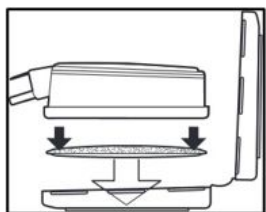

Fig.5
- Orient one filter in the larger half of the filter retainer so the shape of the filter aligns with the shape of the filter retainer. Ensure the printed side of the filter is facing down (Fig. 5). Note: The larger half of the filter retainer does NOT have the cutout end, while the smaller half has a cutout end so it fits around the cartridge connection.